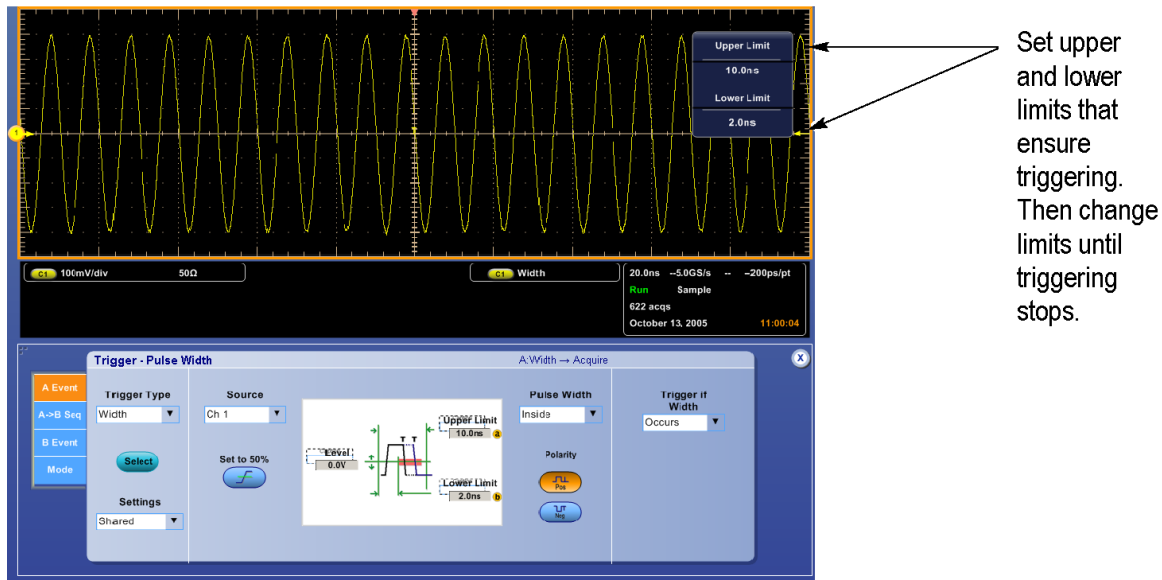

Figure 32: Measurement of time accuracy for pulse and glitch triggering
- a. *Set upper and lower limits that ensure triggering at 100 MHz:* (See Figure 32: Measurement of time accuracy for pulse and glitch triggering on page 254.)